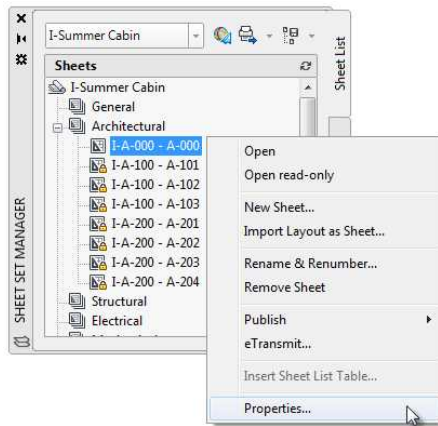

FIGURE 14.39: Accessing the properties for an individual sheet to replace its default name in Sheet Set Manager
1. From the Sheet List palette in Sheet Set Manager, right-click the I-A-000 - A-000 (M-A-000 - A-000) sheet and choose Properties, as shown on the right in Figure 14.39.